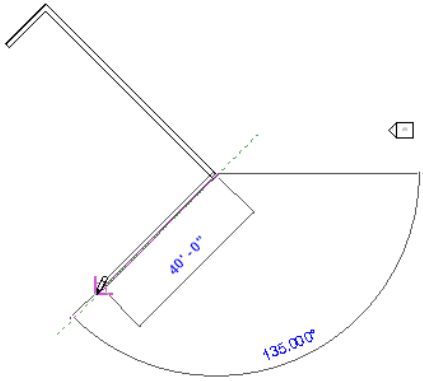

Figure 2-37 Sketching the third inclined wall segment
7. Move the cursor downward to the left until the perpendicular object snap appears. Move the cursor in that direction and click when the temporary dimension value displays **40'0"**, as shown in Figure 2-37. The third inclined wall is created.